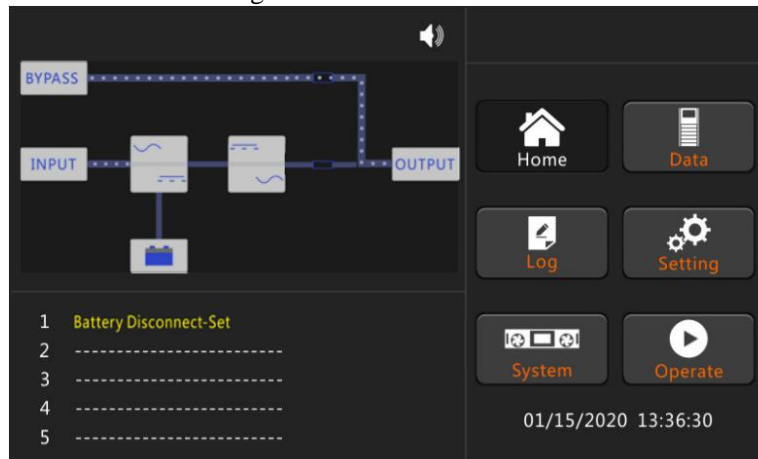

Figure.5.2 Bypass starting
3. The LCD in front of the cabinet is lit up. The system enters the home page, as shown in Figure 5-2.
1. After about 30S, the rectifier start is completed, the bypass static switch is on, and the bypass indicator flashes. As shown in Figure 5-2.